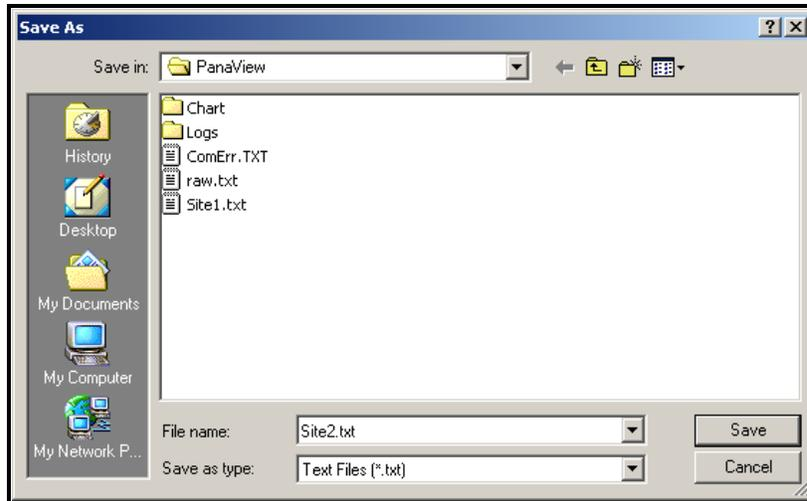

Figure 30: Save As Window
To *save* the raw signal, click Save. A window opens similar to Figure 30. Enter the desired name, and click Save to save the signal as a text file.
2. Click Save Site to PC. A window opens similar to Figure 30 on page 115.